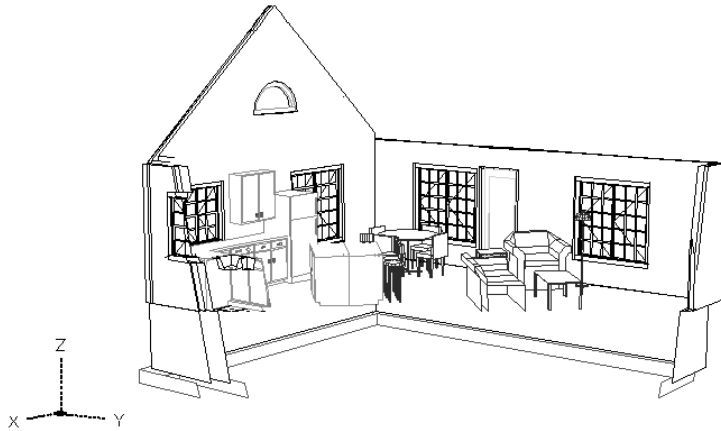

Figure 22-35: The final perspective view.
12. Right-click and choose **Hide** to hide the drawing. Your drawing should look approximately like Figure 22-35.